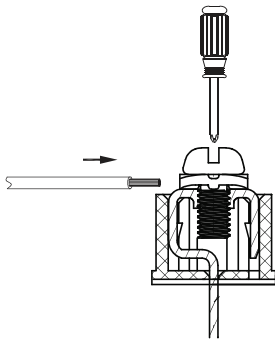

Fig. 18 — Connecting Communication Wire to Outdoor Unit Communication Terminal
3. Use a suitable screwdriver to fix the communication wire on the outdoor unit communication terminal as shown in Fig. 18.